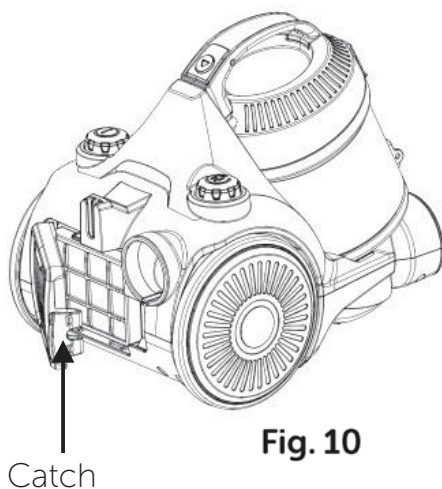
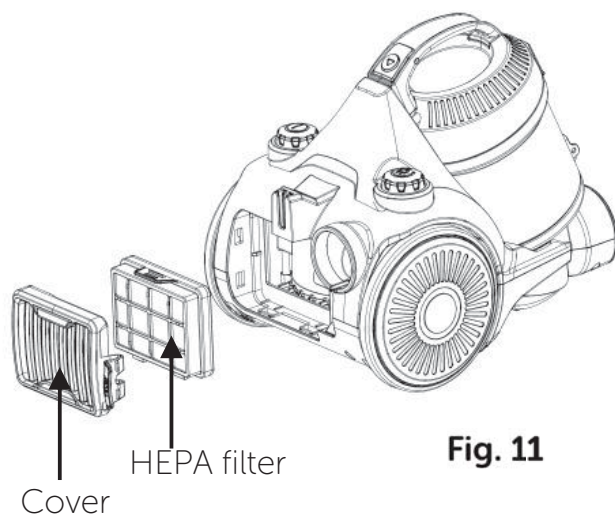

**Fig. 8**
**Fig. 9**
5. The cyclone assembly (fig.8) can also be removed from the dust container and washed under running water (fig. 9) if needed. To remove the assembly, simply lift out.